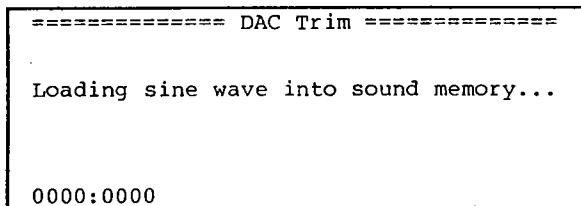

Fig. 5-4
1. Select "1) DAC Trim (15 Hz out #8)" by pressing the DATA ENTRY key. The LC-display will change as shown below, indicating that the sine wave for MSB adjustment is being loaded. (Refer to Fig. 5-4)